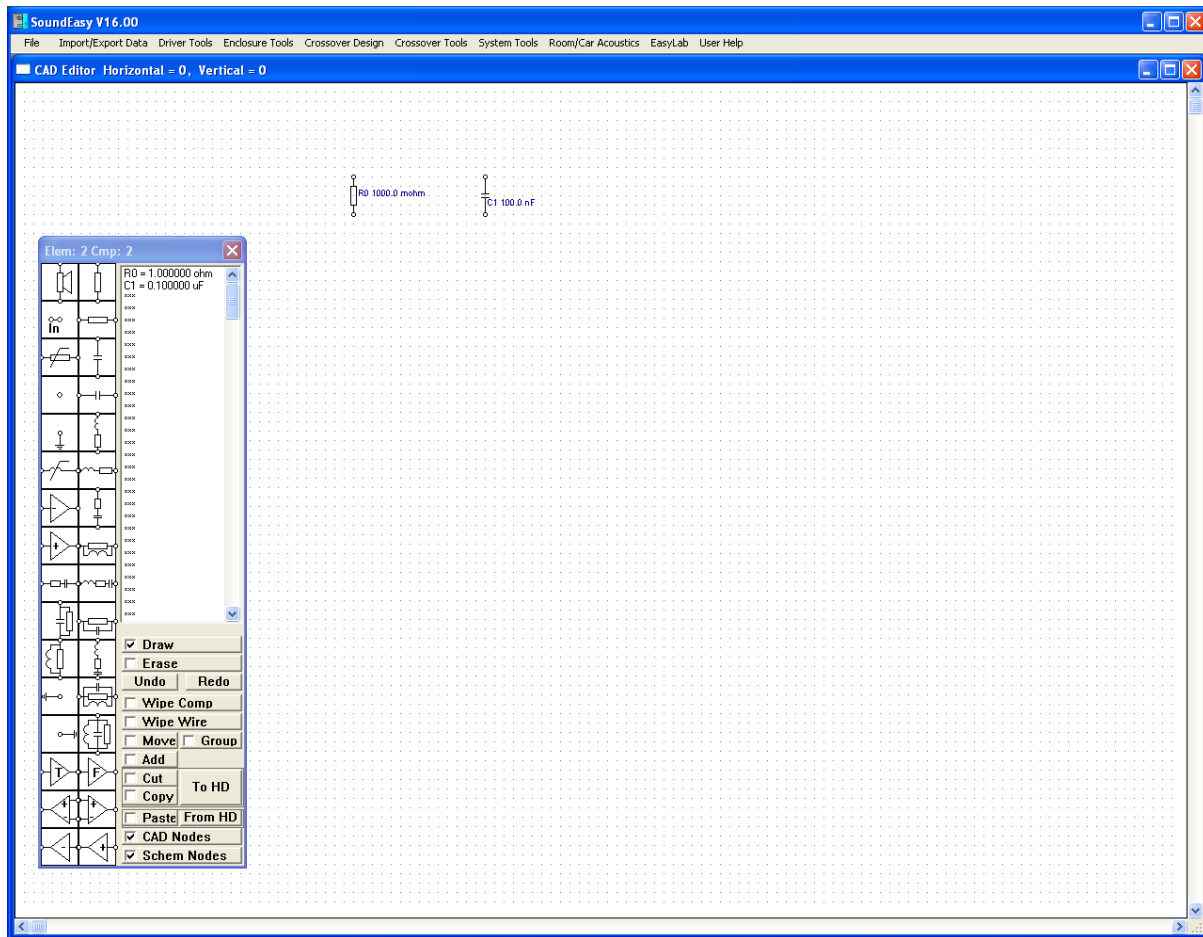
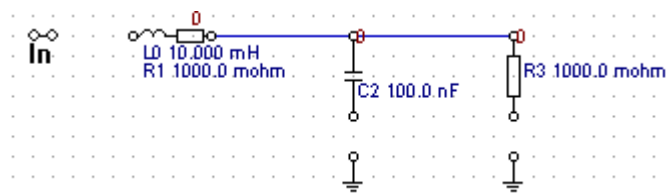
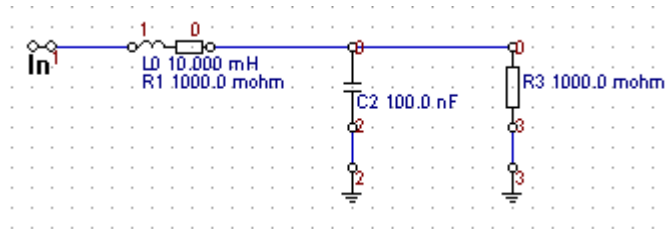

Fig 8.3 Capacitor C1 placed on the CAD drawing area
Fig 8.6 Making progressive connections between components
Fig 8.7 All connections for low-pass filter have been made.
You should now follow Fig 8.3 - Fig 8.6 and place all the remaining components.
7. In order to connect resistors R12-R13-R14, pick the "soldering point" node from the list displayed on the right hand side (the little circle) and place the node in the middle between R12 and R13 resistors. Next, position the pointer arrow on resistor R12, then press and keep pressing the **LEFT** mouse button. Drag the pointer to the right until it is placed above the node, release the mouse button. Place the pointer above the node, press and keep pressing the **LEFT** mouse button while moving the pointer right to the resistor R13. Release the mouse button. Place the pointer above the node, press and keep pressing the **LEFT** mouse button while moving the pointer down to the resistor R14. Release the mouse button. The line drawn initially will be replaced by a neatly drawn, connection. The node or "soldering point" must be placed before the connecting line was drawn. Having mastered the technique of connecting components, the user is now ready to continue with the example schematic in Fig 8.6. Place the arrow pointer on resistor R0 and press the **LEFT** mouse button, then drag the pointer to the node and release the mouse button. A left angle line is drawn connecting R0 and node - Node "0" was created. Continue with the rest of the connections following Figs 8.7 to 8.9. There is no need to exercise great accuracy when positioning the pointer arrow. The 'Crossover' tool cleans the drawing and makes all connections the correct way. Certain connections are not allowed. For example, R1-R8 cannot be connected or R6-R12 can not be connected without a node. If R0 was not there, one could place a node at the square 45 deg up and right from R6 and then connect R6 and R12 via the node. A fully developed schematic is shown in Fig 8.8. "Crossing the wires" is allowed and two nodes are assigned by the program - see Fig 8.5, R15,R16,R17,R18.
The final step in creating the network is assigning values to the components. In order to assign a value to a component, position the arrow pointer above the required component and **CLICK** the **RIGHT** mouse button. As a result of this, a window will be opened with 1, 2 or 3 editable fields for entering the required value. The entered data must be a positive, real number. When finished, click on the "Done" button. Enter the value of the each component in the same way. The entered data is displayed under the "Parts List" heading as soon as the data entry window is closed. When all the values are assigned, the network is now ready for analysis (see Fig 8.7).